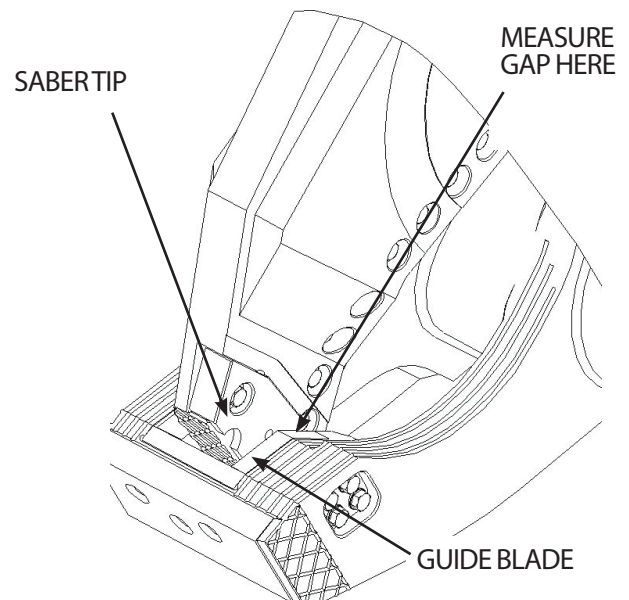

FIGURE 5-8
1. Close the shear until the Saber Tip on the upper shear begins to bypass the guide blade (see Figure 5-8). Use a feeler gauge to check the gap and record it. Close the shear in steps and check the gap at different spots along the Saber Tip surface.